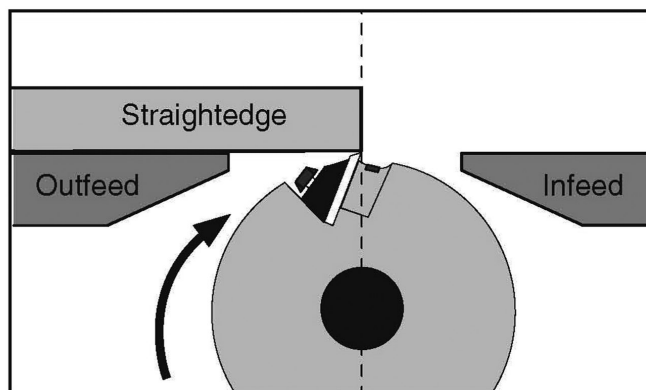

Figure 18. Illustration of a typical outfeed table alignment setup.
3. Rotate the cutterhead under the straightedge until one of the knives is at top dead center, as illustrated in **Figure 18**.